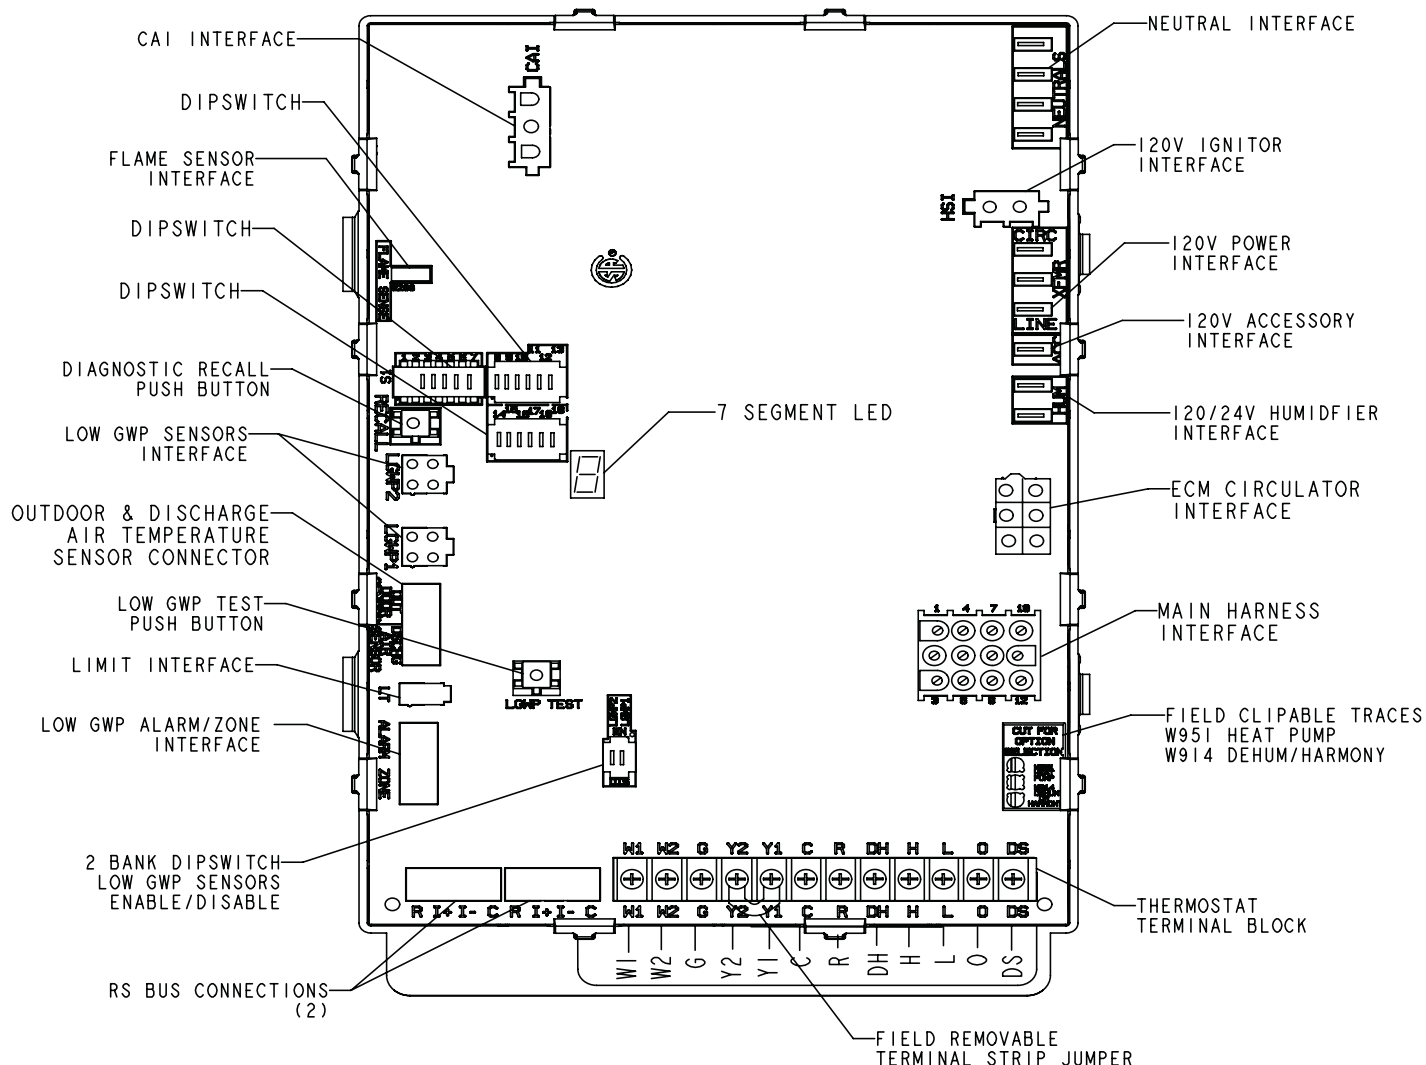
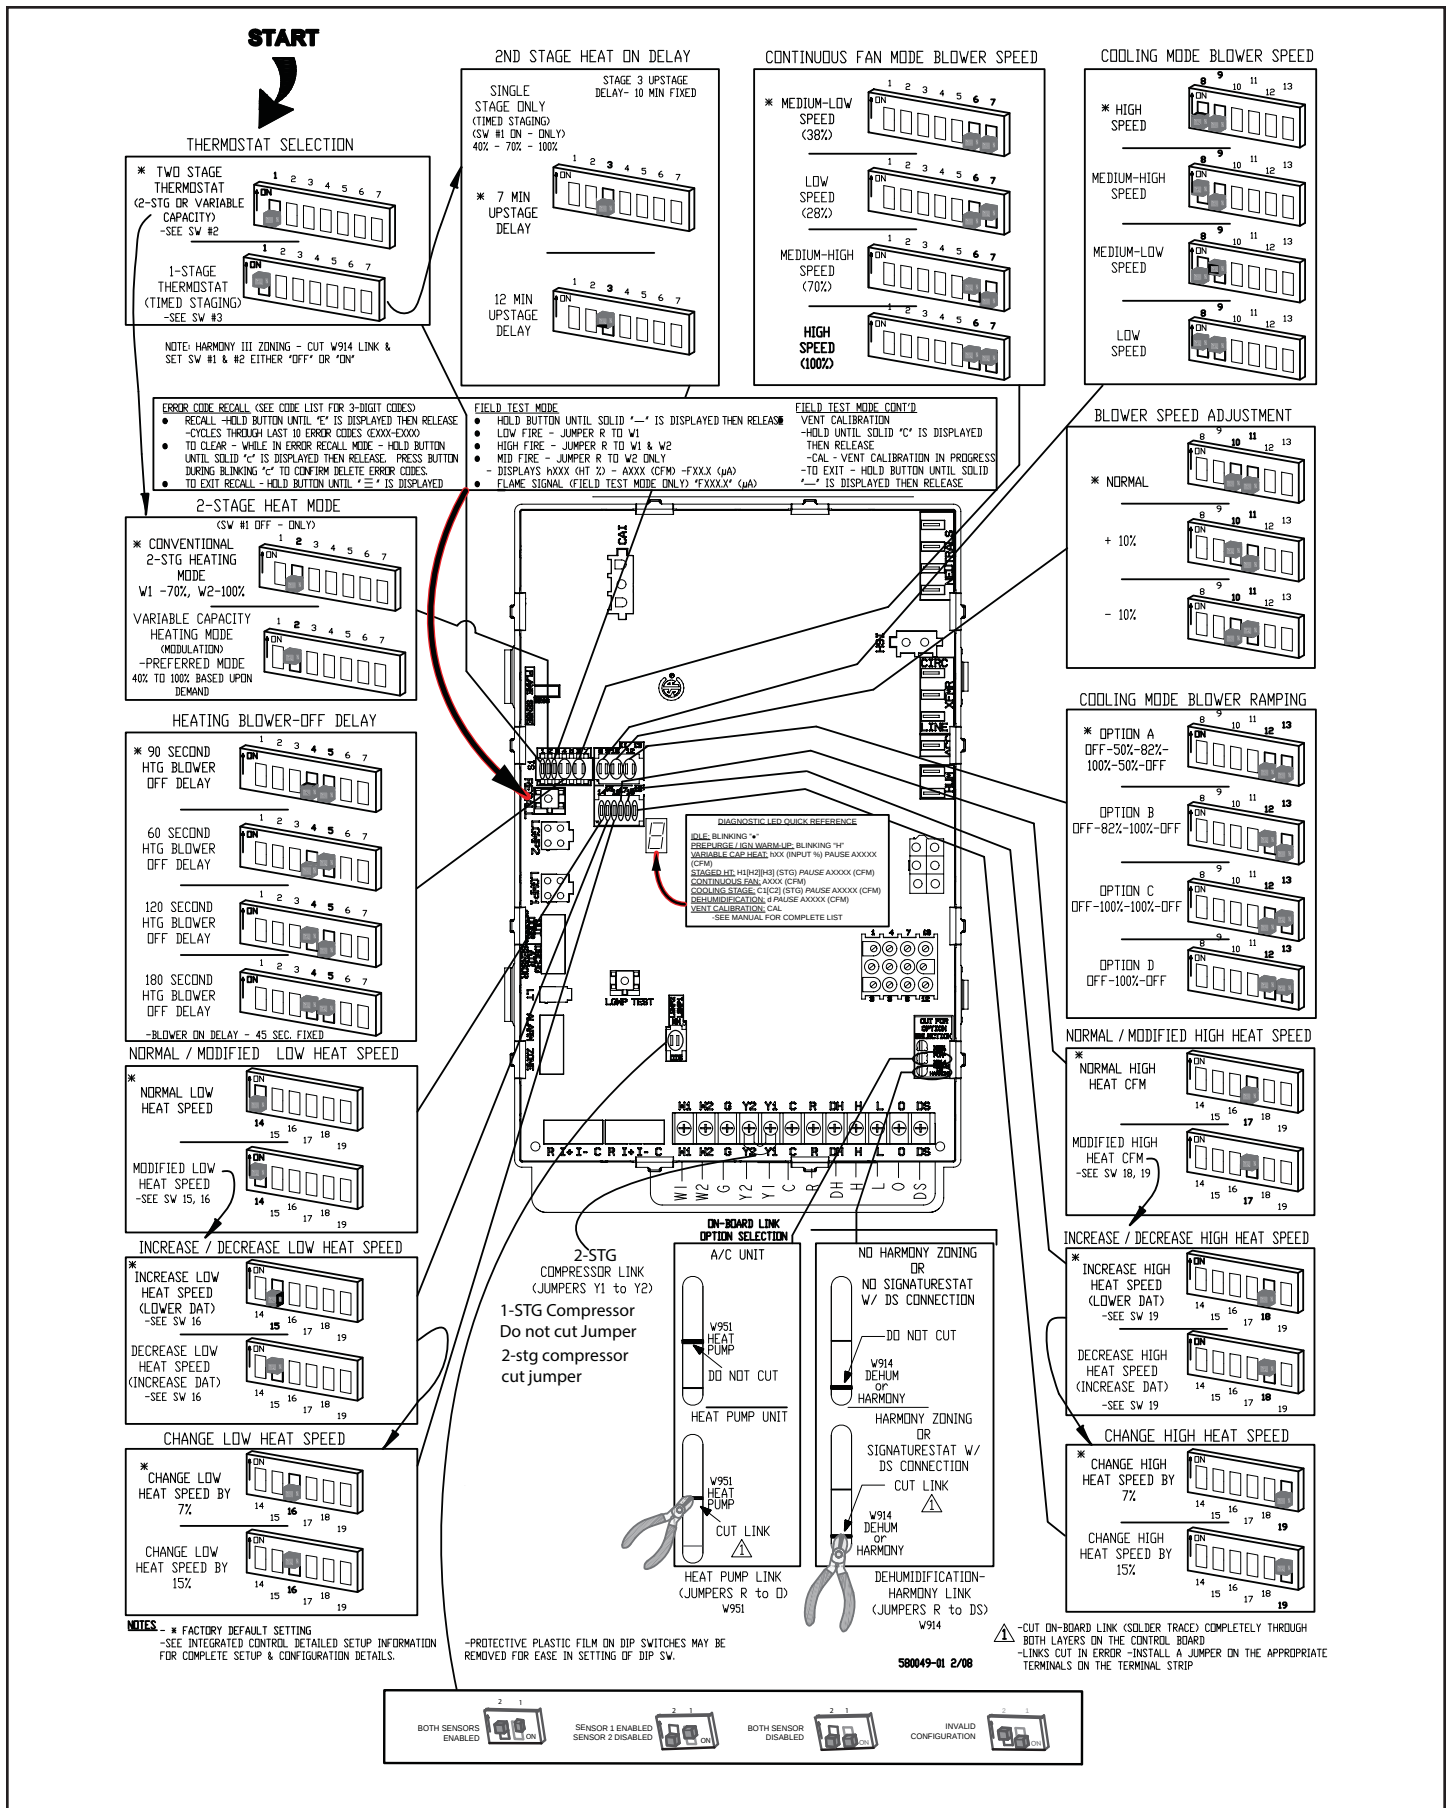

Figure 4. Integrated Control
Figure 5. Integrated Control Configuration Guide
Units are equipped with a variable capacity integrated control. The control can operate with a non-communicating conventional single or two-stage thermostat. The system consists of an ignition / blower control (Figure 4 and Figure 5) with control pin designations (Table 1 through Table 4) and an ignitor. The control and ignitor work in combination to ensure furnace ignition and ignitor durability. The control provides gas ignition, safety checks and indoor blower control with two-stage gas heating. The furnace combustion air inducer, gas valve and indoor blower are controlled in response to various system inputs such as thermostat signal, pressure and limit switch signal and flame signal. The control features a seven-segment LED display, indicating furnace status (including indoor blower) and error codes. The LED flashes in single digits. For example, using Table 13 under CODE, an "E" followed by "2" followed by "5" followed by "0", the limit switch circuit is open. The control also has two unpowered (dry) 1/4" contacts for a humidifier and a 120 volt accessory terminal. Both rated at (1) one amp each.
The control can be made to operate in three modes: variable capacity, three-stage timed or two-stage. The variable capacity and two-stage modes are only operational with a two-stage thermostat. The thermostat selection is made using dip switches one and / or two (**Figure 5**) and must be positioned for the particular application.